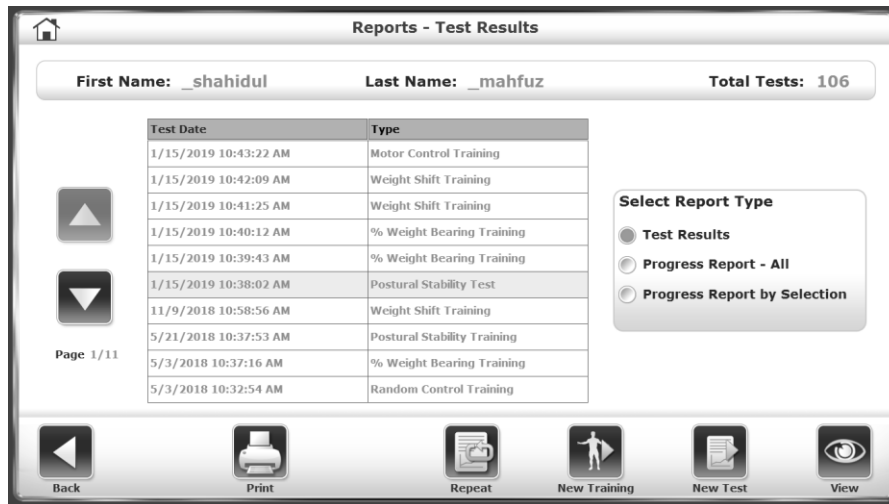

Figure 7.3. Selecting a Test for a Report.
2. The list of sessions is sorted by date and type. Touch a session to highlight it and touch <Next>. The Reports - Test Results screen is displayed (see Figure 7.3).